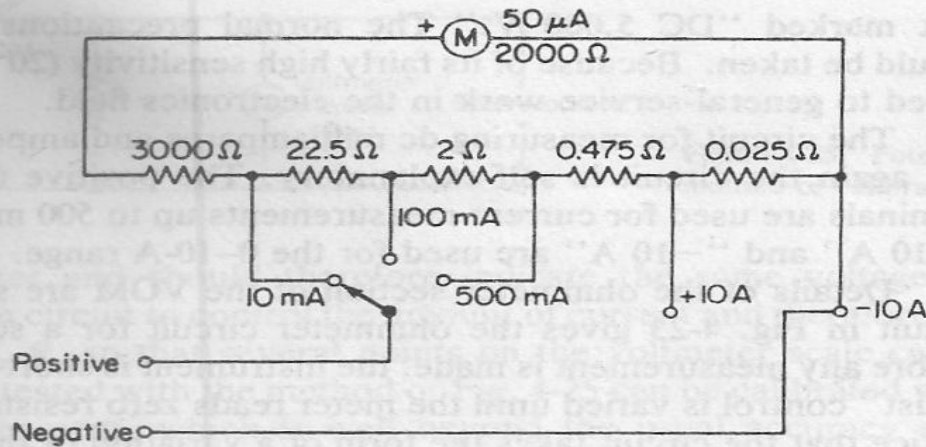

Figure 4-22 Dc ammeter section of the Simpson Model 260 multimeter. (Courtesy of Simpson Electric Company.)
- The circuit for measuring dc milliamperes and amperes is given in Fig. 4-22 and again the circuit is self-explanatory.